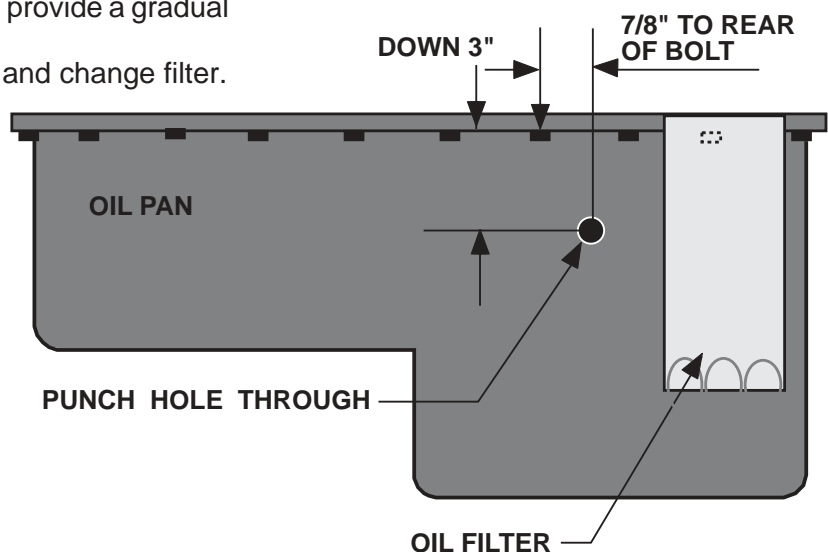

Fig. 3-a
- C. Make a mark on the oil pan on the driver's side ahead of the oil filter. The mark should be 3" below the bolt flange and rearward of the fourth bolt 7/8". (See Fig. 3-a.) You may choose a different place, if necessary; however, take care not to damage any internal parts. The drain hose should gradually drop with no dips or kinks and should be above the oil level.